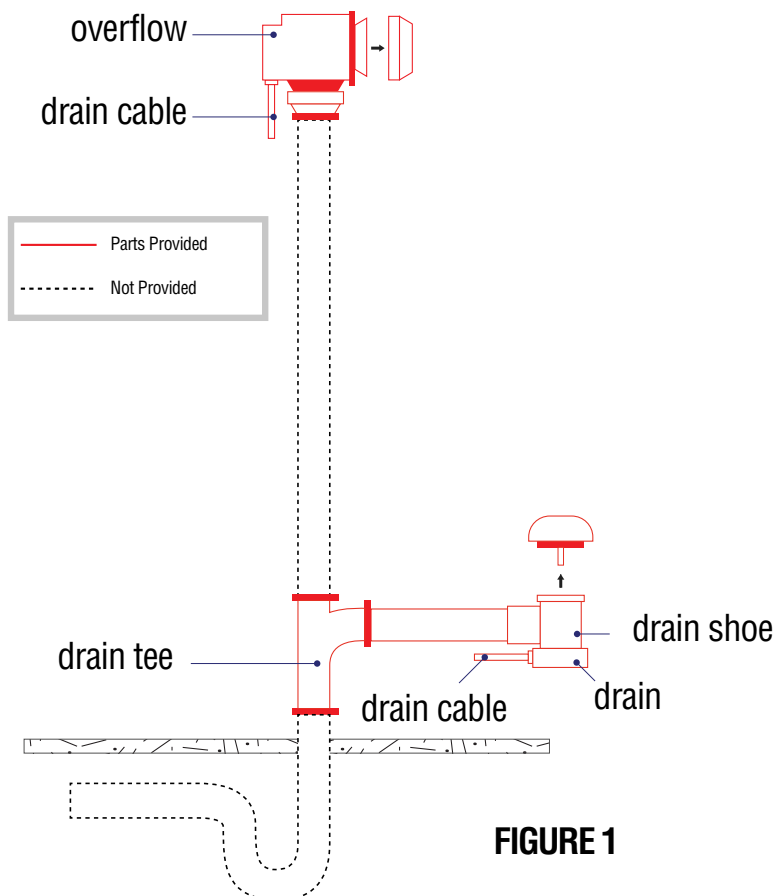

FIGURE 1
6. Once the components of the overflow are secured into place, turn the overflow knob to the open and closed position to ensure proper function. The cap and stem will move up and down, opening and closing the drain (Figure 1).